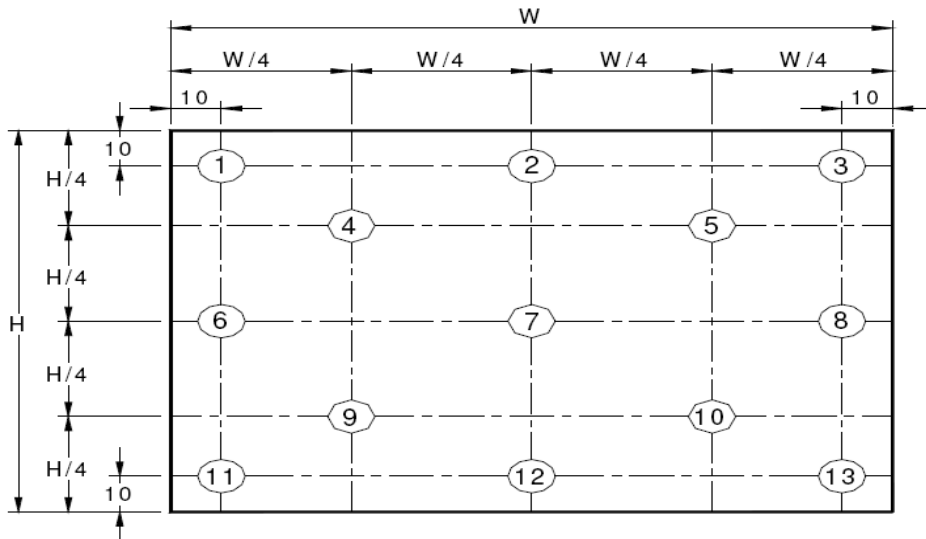

Figure 9. Uniformity Measurement Locations (13 points)
4. The White luminance uniformity on LCD surface is then expressed as :  $\Delta Y = \text{Minimum Luminance of 5(or 13) points} / \text{Maximum Luminance of 5(or 13) points.}$ (see Figure 8 and Figure 9).
The White luminance uniformity on LCD surface is then expressed as :  $\Delta Y5$  = Minimum Luminance of five points / Maximum Luminance of five points (see Figure 8) ,  $\Delta Y13$  = Minimum Luminance of 13 points / Maximum Luminance of 13 points (see Figure 9).